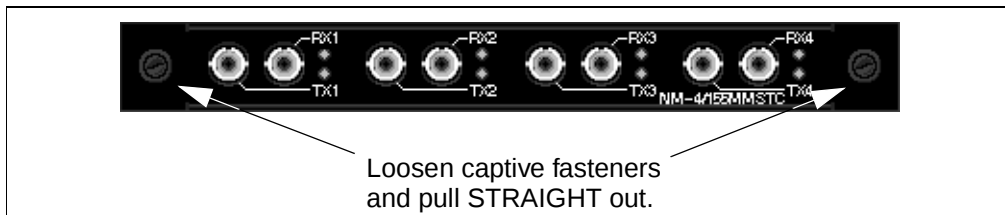

Figure 3.1 - Removal of Network Modules
3. Pull firmly but carefully on the captive fasteners, removing the network module from the switch as shown in Figure 3.1.